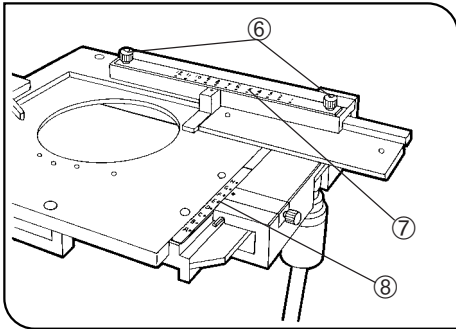

Fig. 88
1. Loosen the two clamping knobs ⑥ at the top of the stage's X-axis guide. Positioning the scale numerals correctly, plate the X-axis scale ⑦ on the guide. Then tighten the clamping knobs. (Fig. 88)
2. Positioning the scale numerals correctly, place the Y-axis scale ⑧ on the top of the stage's Y-axis guide. The scale will be held in place magnetically. (Fig. 88)